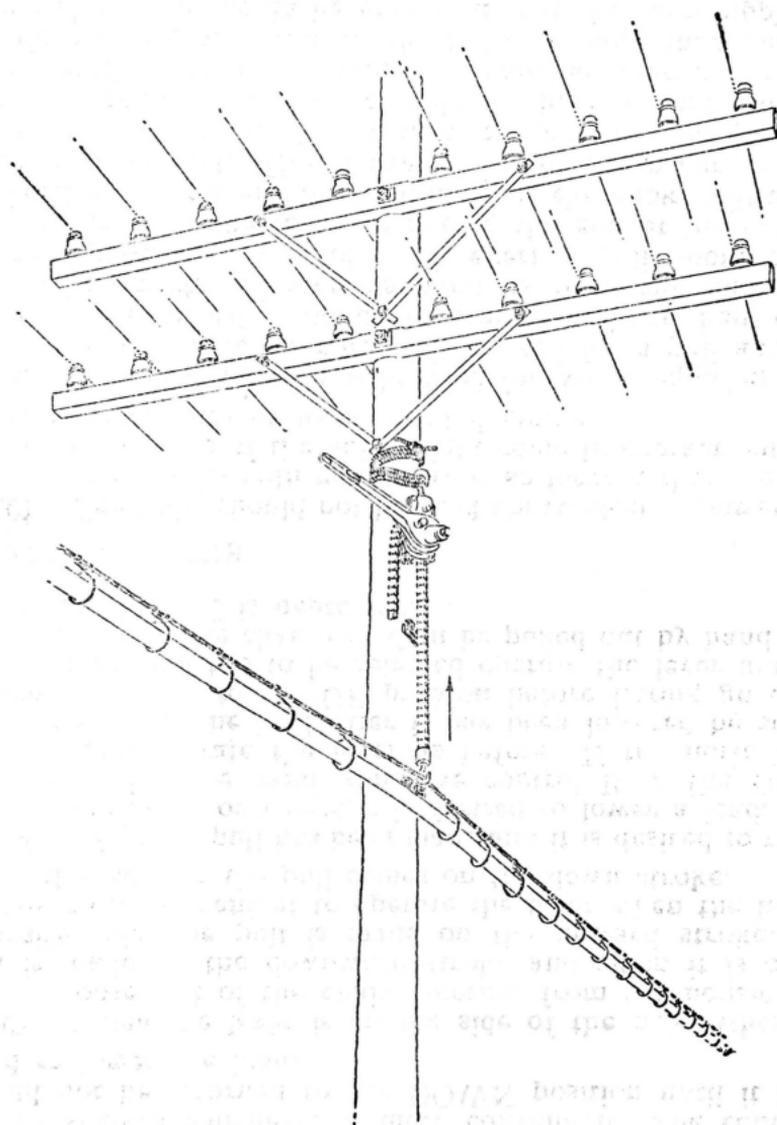

Fig. 3.
3.01 The following illustrations show some of the uses of the hoist and how it is applied. Fig. 2 shows the hoist set up for pulling a guy. Fig. 3 shows it set up for raising a cable. When transferring cable, the hoist can be used to support the cable as shown in Fig. 3 in which case the hoist should be attached to the new pole.